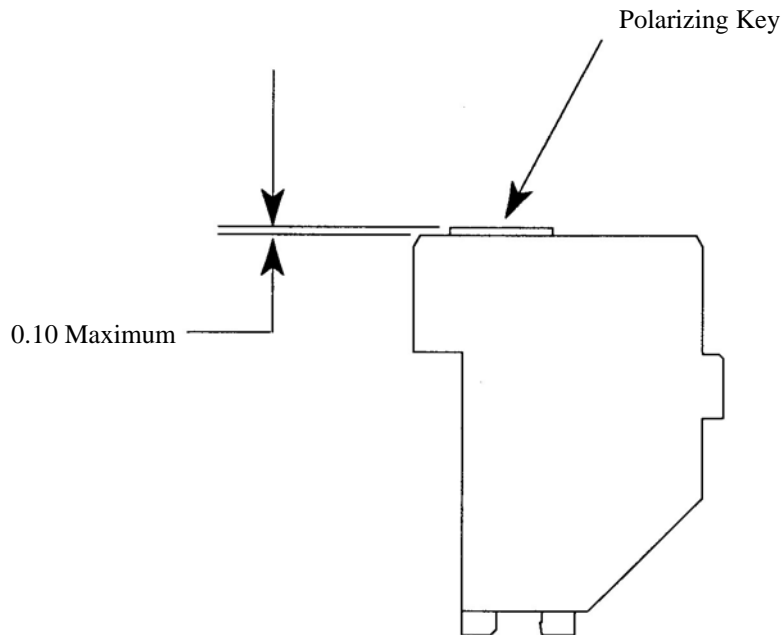

Figure 2
- 2.4.2 Check the seating depth of the key (see Figure 2).